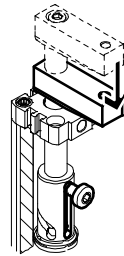

Bild 4
- linear movement (with CLR-40-... to CLR-63-..., see Bild 4).